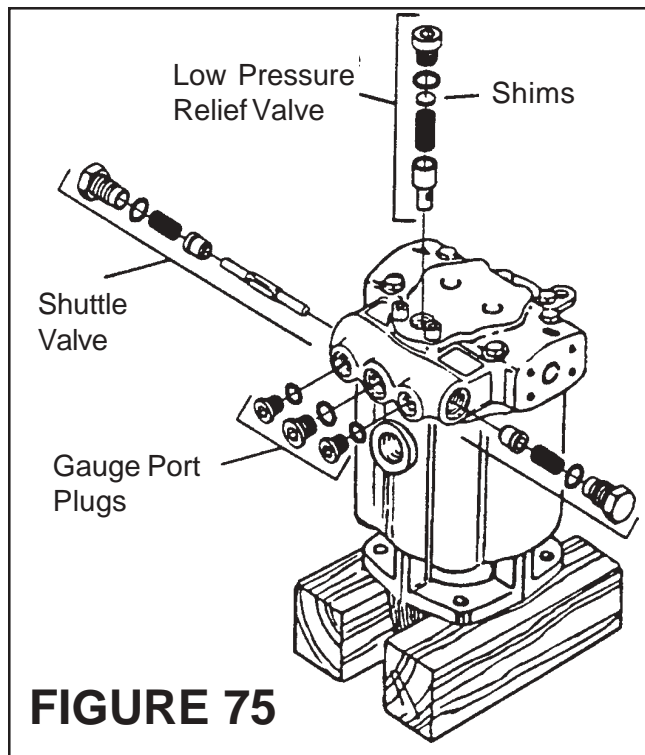

**FIGURE 73**
8. After adjusting endplay, Reposition Motor on mounting flange, remove End Cover (Figure 73)
9. Install two Dowel Pins in face of Cylinder Barrel Sub-Assembly, Freely lubricated Bearing Plate with clean Hydraulic Fluid, Align Bearing Plate with Dowel Pins (Figure 73) and install it on Cylinder Barrel Assembly
11. Hold Valve Plate firmly in position. Install End Cover on Housing. (Figure 73)